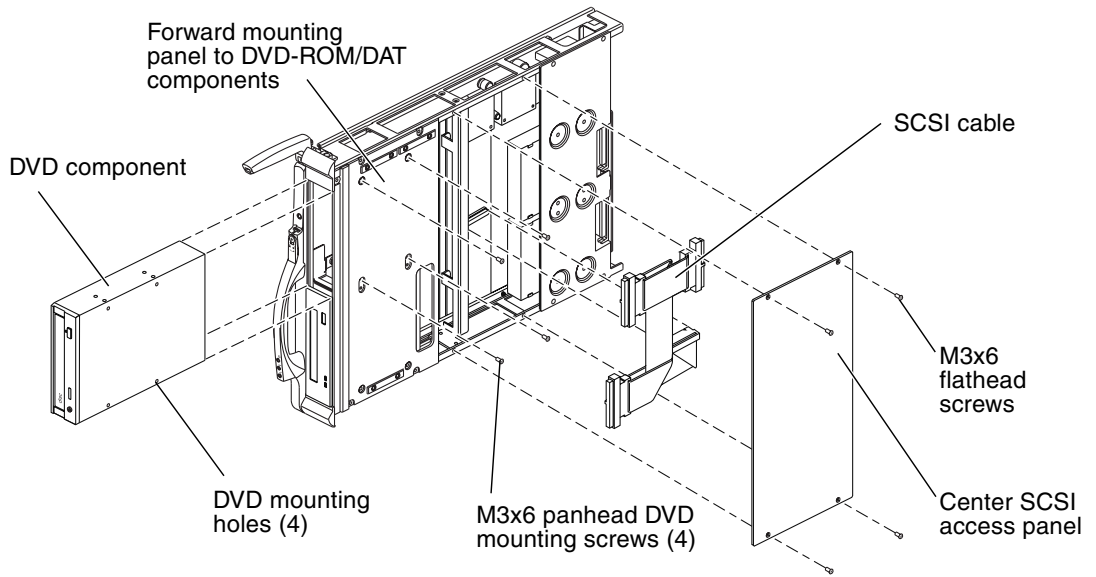

FIGURE 7-3 SC Peripheral Board DVD Removal and Access Panel—Exploded
4. At the center SCSI access panel, remove the four (4) M3x6 flathead screws and remove the panel.
6. To access the internal DVD component of the SC peripheral board, remove the four (4) M3x6 panhead screws from the forward mounting panel, as shown in FIGURE 7-3.